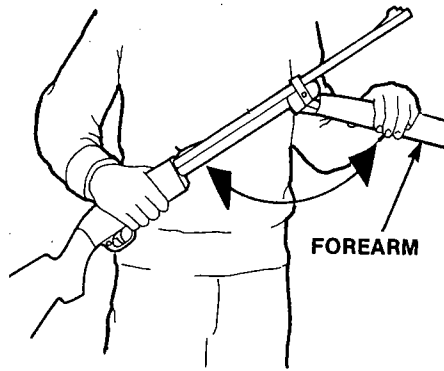

FIG. 2
- B. Open the forearm all the way until it stops. (Fig. 2) Close it with a smooth stroke. Don't pinch hand or fingers when the forearm closes. Keep your finger off the trigger while pumping.